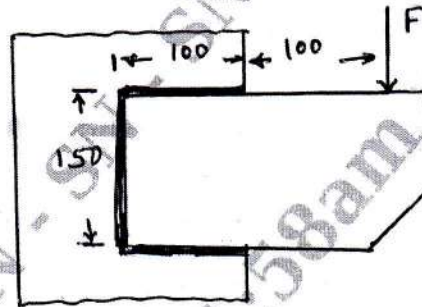

Fig.Q8(a)
- 8 a. Calculate the maximum force  $F$  that can be applied to the eccentrically loaded welded joint shown in Fig.Q8(a). If the size of the fillet welds is 15 mm and have an allowable shear stress of  $80 \text{ N/mm}^2$ .